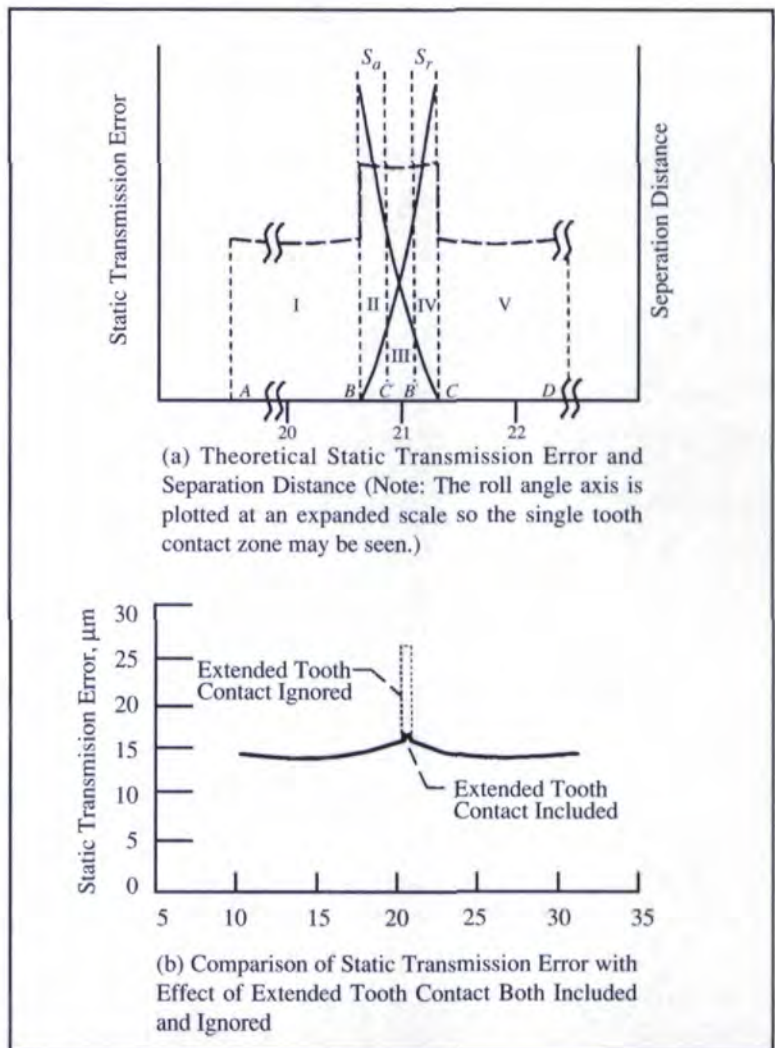

Fig. 6 — Static transmission error and separation distance for gears with contact ratio = 1.95.
If the tooth addendum (and hence the height of the teeth) is increased, the contact ratio becomes greater. The increase in the contact ratio reduces the zone of single contact. The width in the step in the static transmission error curve will be reduced as the separation distance curves S_a and S_r approach each other. These effects can be seen in Fig. 6(a).
If the theoretical contact ratio is increased to slightly less than 2.00, the increase in contact length due to extended tooth contact may cause the single contact zone to completely disappear. This is illustrated in Fig. 6(b), in which the tooth addendum of the gears was increased by 20% over the standard value to increase the theoretical contact ratio to 1.95. The actual contact ratio (after consideration of tooth flexibility) is 2.02.
Fig. 6(a) shows the static transmission error for the gears with theoretical contact ratio of 1.95. The single tooth contact zone (regions II to IV) is so narrow compared to regions I and V that the figure was plotted at an expanded scale. (Only portions of regions I and V are shown.) For regions I (AB) and V (CD), the static transmission error curve is similar to Fig. 5(a). Regions II (BC') and IV ($B'C$) are extended zones of double tooth contact (similar to the corresponding regions in Fig. 5(a)). The trans-
In Fig. 6(b) the magnitude of the transmission error was significantly reduced because the single contact region was entirely eliminated.
(Fig. 6) has little effect on the average gear meshing stiffness.